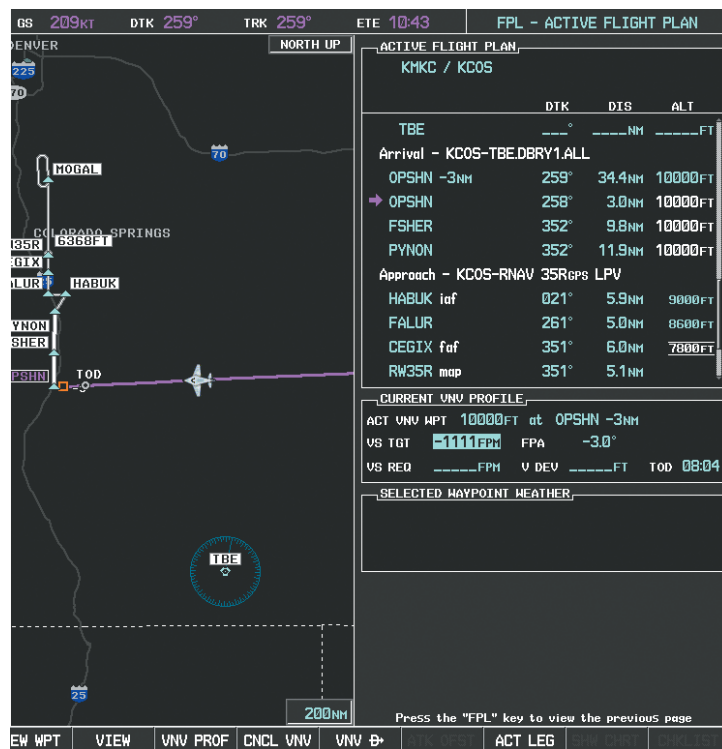

Figure 5-133 Adjusting the Descent
- a) Select the **VNV PROF** Softkey to place the cursor in the target vertical speed field (VS TGT) as shown in Figure 5-133.